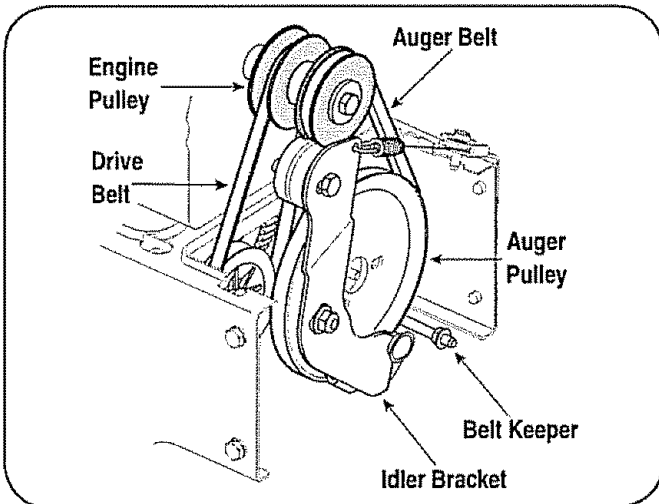

Figure 10
2. Slip the front auger belt off of the engine pulley pushing it forward and rolling in off of the pulley. See Figure 10.
5. Place the new drive belt into the groove on the engine pulley. See Figure 10.